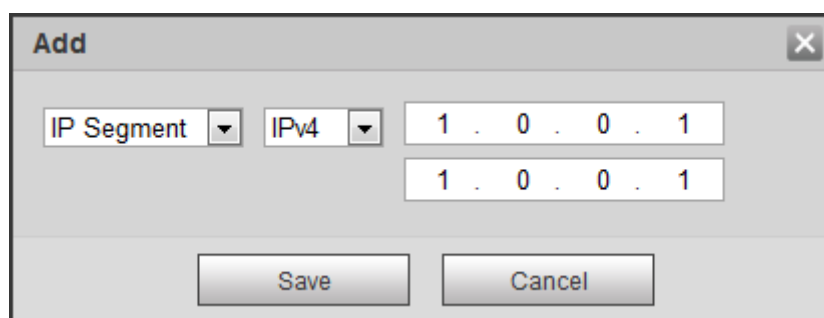

Figure 5-145
- Edit: Click it to edit start address and end address. See Figure 5-145. System can check the IP address validity after the edit operation and implement IPv6 optimization.